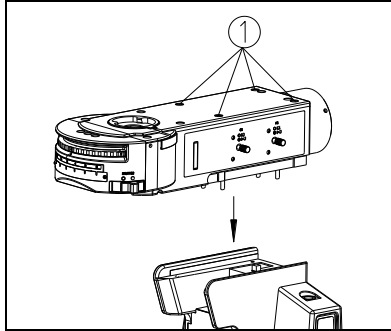

Fig. 28
- (1) Use a tool with cuspidal end to plug into gaps of the caps ① on the illuminator, take off the caps. (Fig. 28)
- (2) Put the illuminator into the body along with the rounded side, then push it toward the light source direction, make the epi-illuminator close to the body.
- (3) Tighten the 4pcs M5 hexagon screws in the illuminator with the spanner, then cover back the cap.